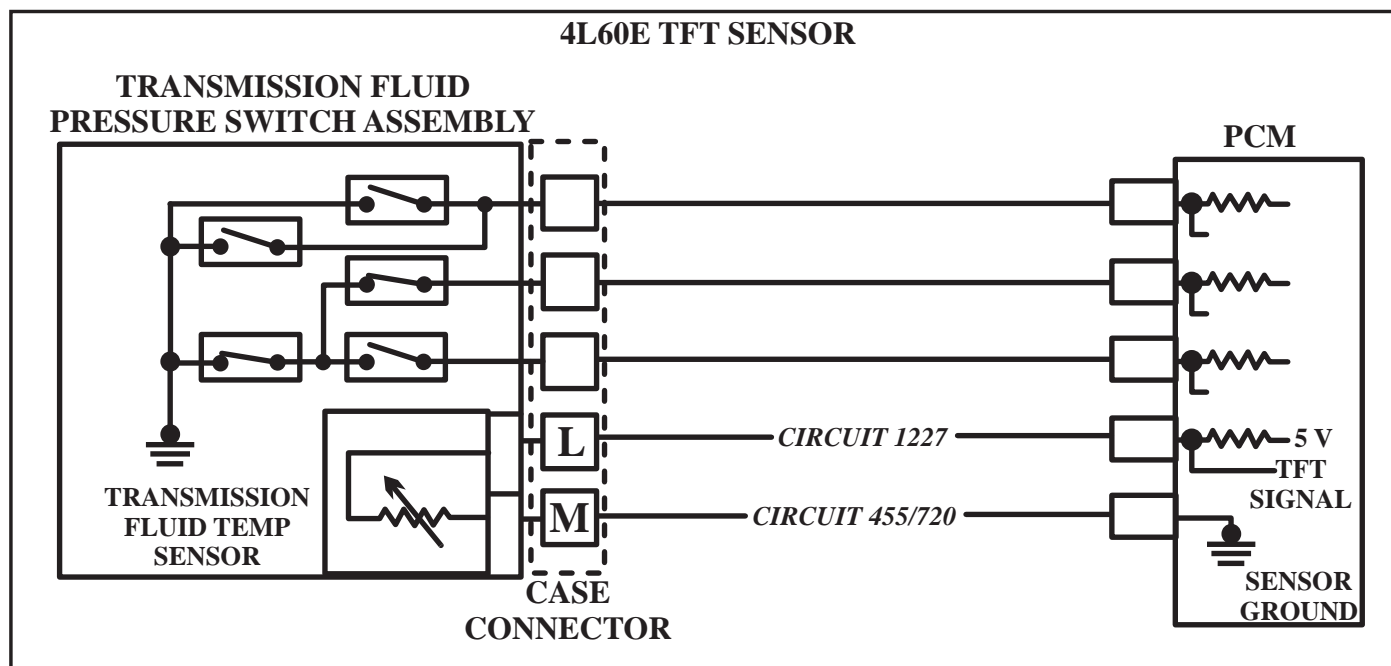

Figure 92
- The 5 volt reference circuit 1227 (Refer to Figures 92 or 93) is shorted to ground.
- The ground circuit 455 or 720 (Refer to Figures 92 or 93) is poor or open.
- TFT Sensor 5 volt reference circuit 1227 (Refer to Figures 92 or 93) is shorted or open.
- TFT Sensor ground Circuit 720 (Refer to Figures 92 or 93) is faulty.